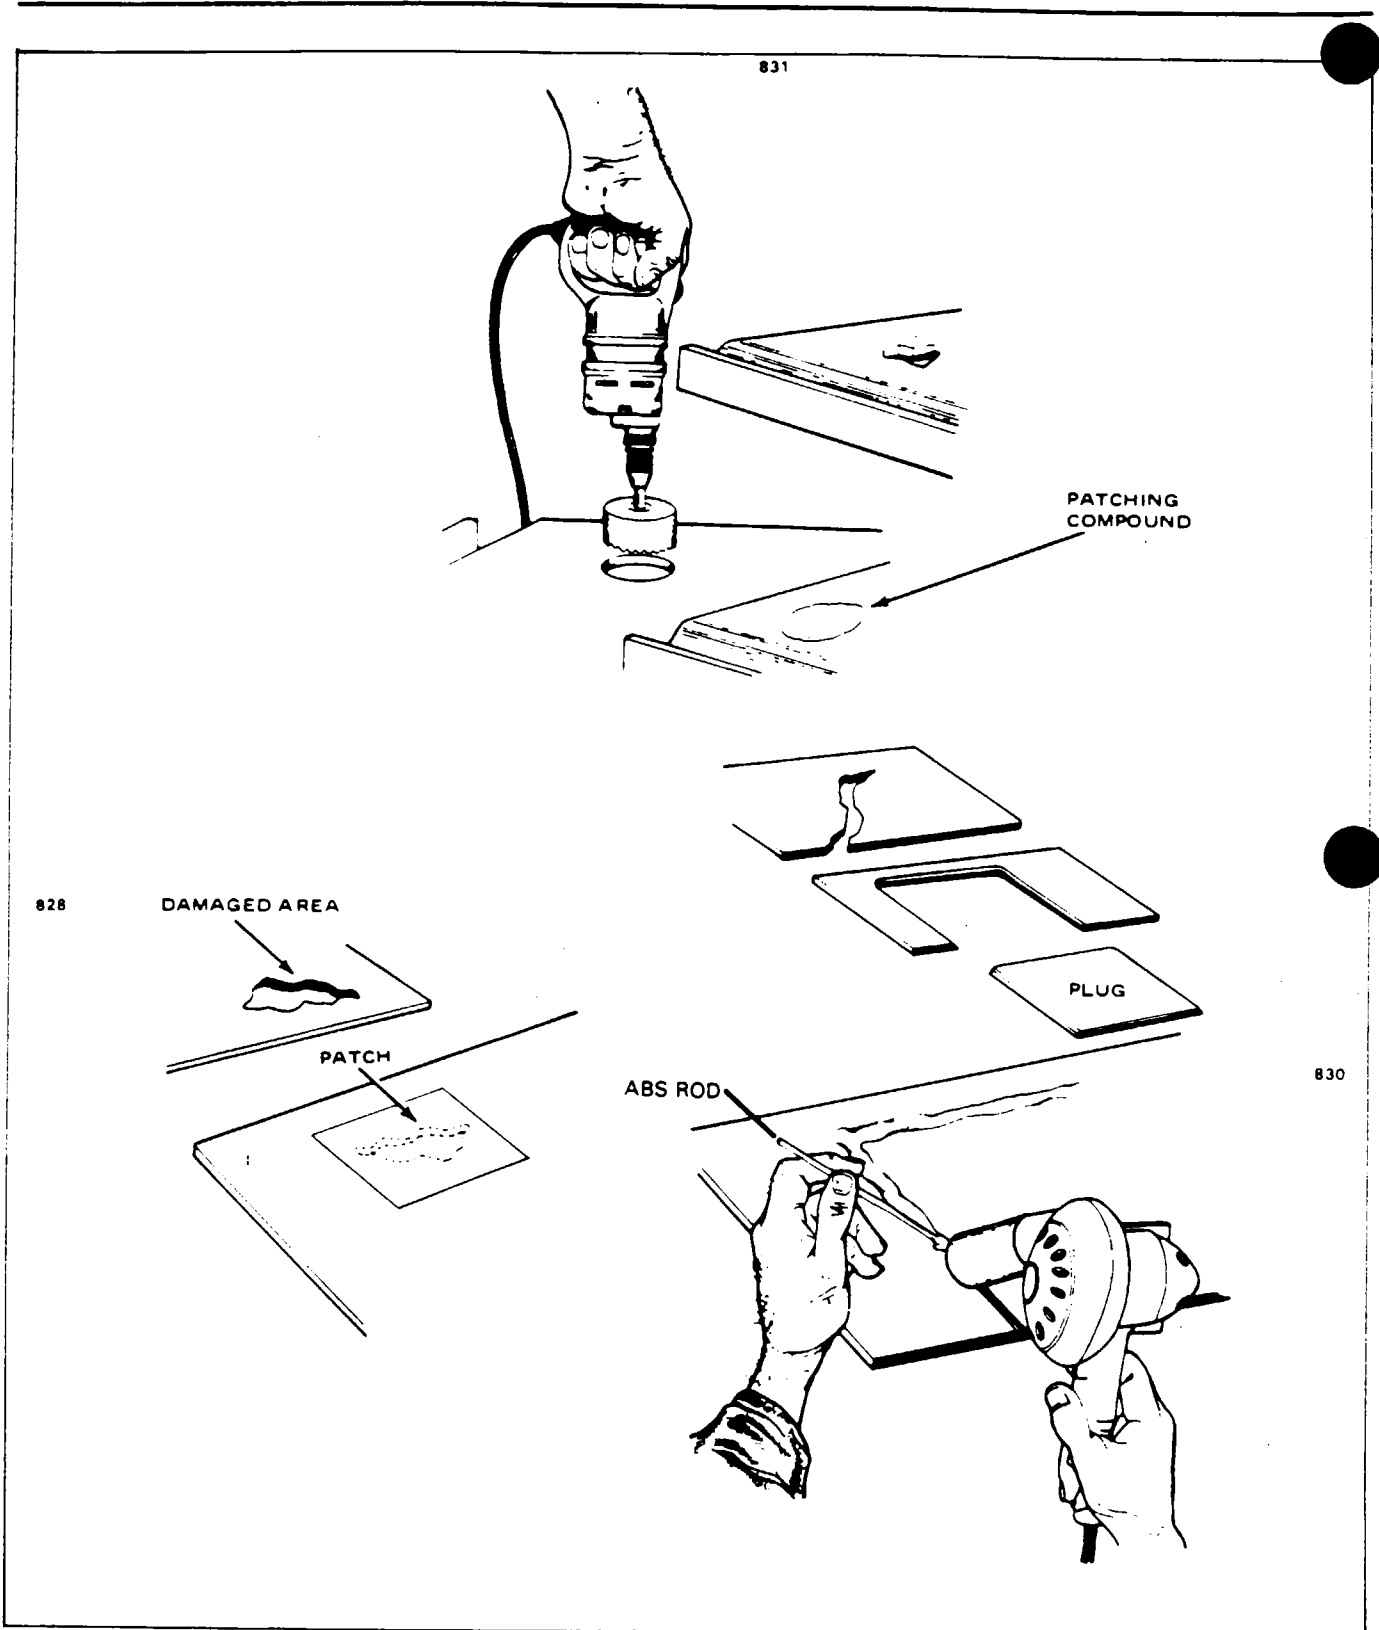

Figure 51-8. Various Repairs
- 5. Repairing Major Damage: (Larger than 1 inch in diameter.) (Refer to Figure 51-8.)